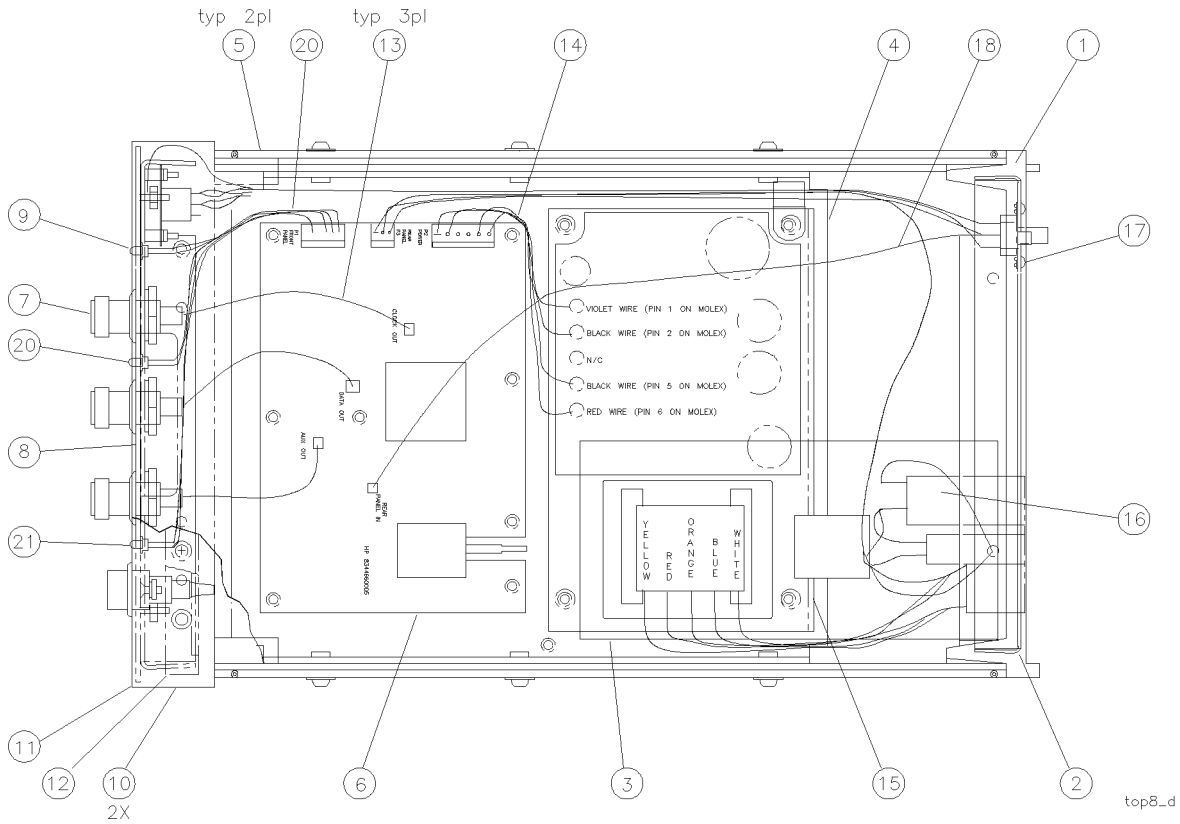
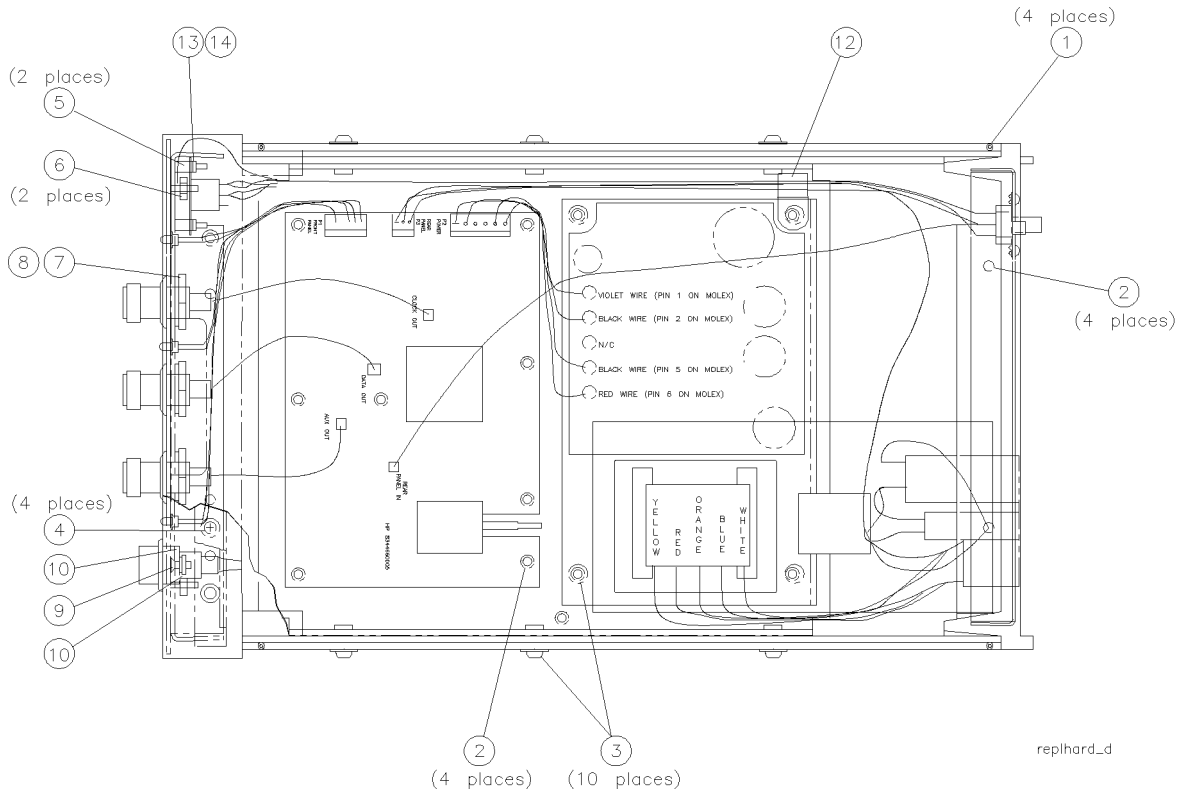

Figure 4-6. Agilent 83446A/B assembly level replaceable parts.
Figure 4-7. Agilent 83446A/B replaceable hardware.
- Item number of callout in Figure 4-6 and Figure 4-7.